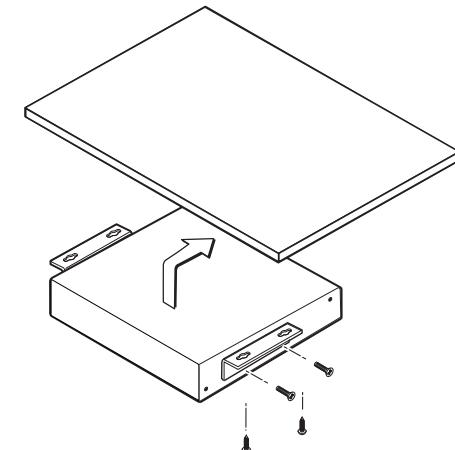

Figure 2-7 — Under-desk mounting
4. Using the four wood screws provided, attach the brackets under the mounting surface (see figure 2-7).